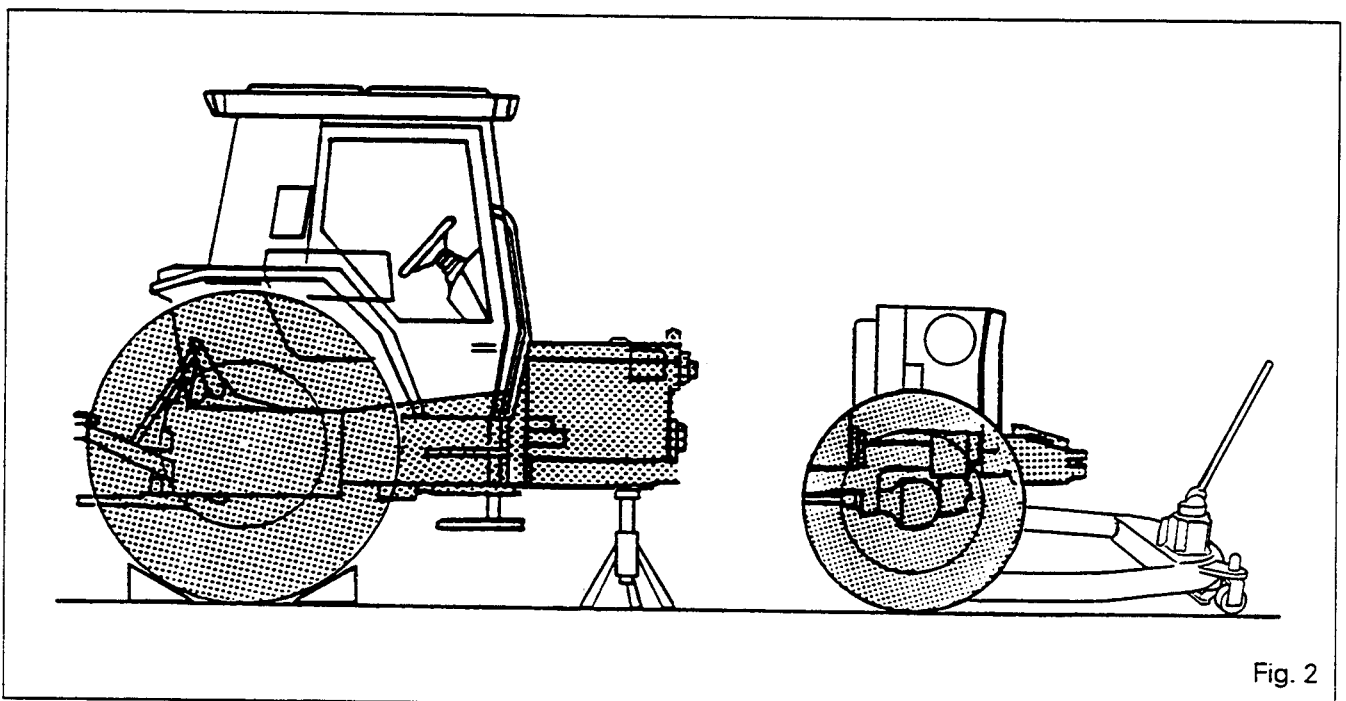

Fig. 2
12. Support the tractor under the frame using a trolley jack and separate the engine from the frame (Fig. 2).